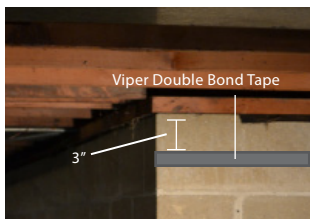

FIGURE 1
Step 1: Apply Viper Double Bond Tape along the foundation at the area of termination. If desired, leave a 3-inch gap (Fig. 1) between the sill plate and termination to allow for termite inspection. Foundation should be free of dust, dirt and debris to facilitate a strong tape bond.